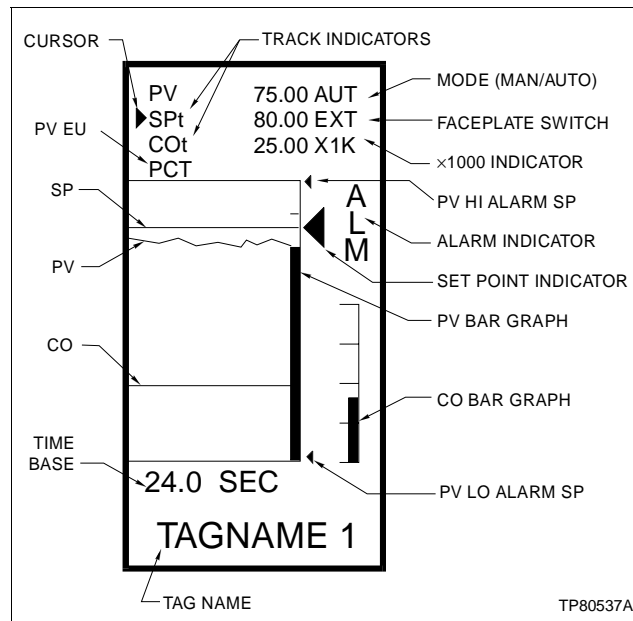

Figure 5-4. Trend Screen Description
6. If *TRND SCRN* is chosen, the trend screen will appear (Fig. 5-4). The following functions are available: